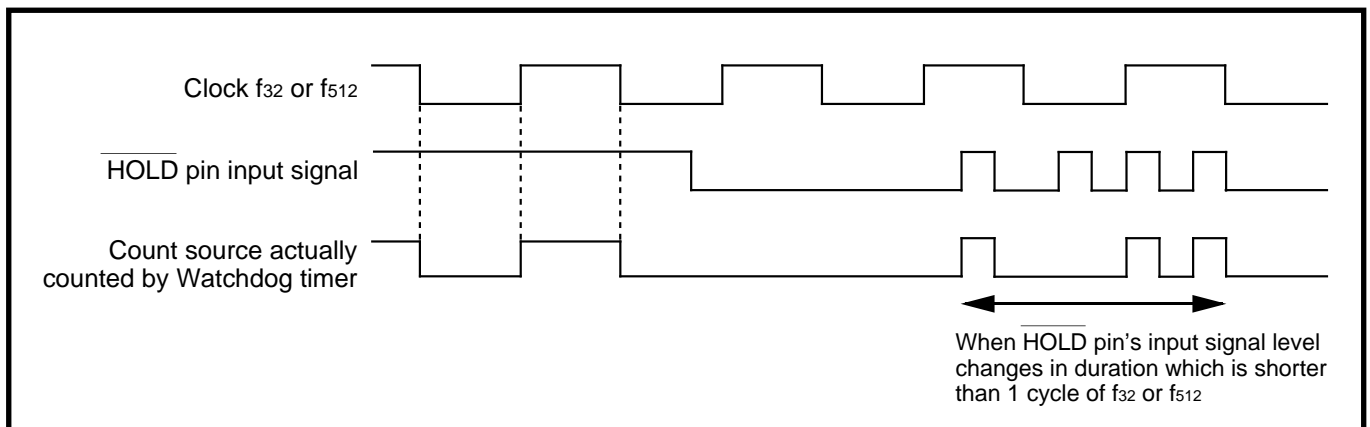

Fig. 9.3.1 Watchdog timer's count source
3. To stop Watchdog timer in Hold state, the count source which is actually counted by Watchdog timer is the logical AND product of two signals. One is the inverted signal input from the **HOLD** pin, and the other is the count source (f_{32} or f_{512})(Note). Accordingly, when the **HOLD** pin's input signal level changes in a duration which is shorter than 1 cycle of the count source (**Note**), counting by Watchdog timer can be performed. (Refer to Figure 9.3.1.)